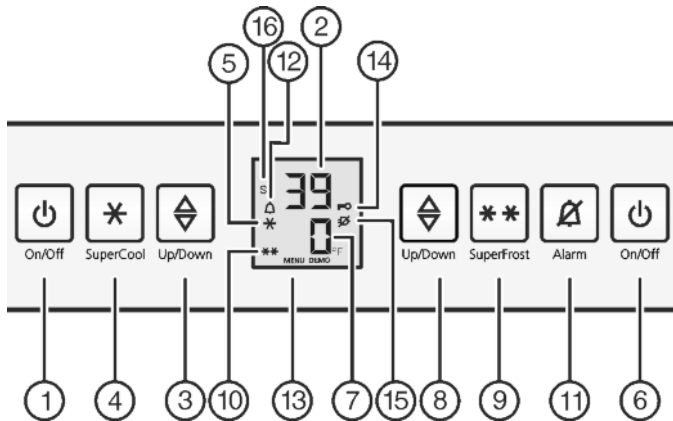

Fig. 3
- ▶ Press the freezer compartment On/Off button Fig. 3 (6).
- ▶ Press the refrigerator compartment On/Off button Fig. 3 (1).
- ▶ Activate setting mode: Press SuperFrost button Fig. 3 (9) for about 5 seconds.
- ▷ The Menu symbol Fig. 3 (13) lights up.
- ▶ Use the Set freezer compartment button Fig. 3 (8) to select °.
- ▶ To confirm: Briefly press SuperFrost button Fig. 3 (9).
- ▶ Select °F oder °C with the Freezer compartment set button Fig. 3 (8).
- ▶ To exit setting mode: Press Freezer compartment On/Off button Fig. 3 (6).
- ▶ To activate setting mode: Press and hold the SuperFrost button *Fig. 3 (9)* for approx. 5 seconds.
- ▷ In the display, the Menu Symbol *Fig. 3 (13)* is displayed.
- ▶ Use the Set freezer compartment button *Fig. 3 (8)* to select **c**.
- ▶ Confirm briefly by pressing the SuperFrost button *Fig. 3 (9)*.
- ▷ The Child Safety symbol *Fig. 3 (14)* lights up on the display.
- ▶ Press the freezer compartment On/Off button *Fig. 3 (6)* briefly.
- ▶ Press Alarm button *Fig. 3 (11)*.